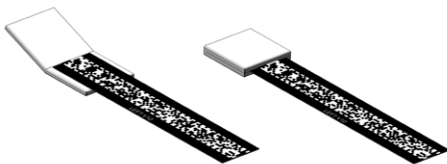

Figure 27: Code tape end cover
3. Cut off the excess code tape. Use a tinsnip which can cut a minimum of 0.7 mm of stainless steel. Attach the provided code tape end cover to the end of the code tape to prevent potential injury (Figure 27).
4. Cover the end piece with the second provided code tape end cover in order to avoid injury on the sharp edge (Figure 27).